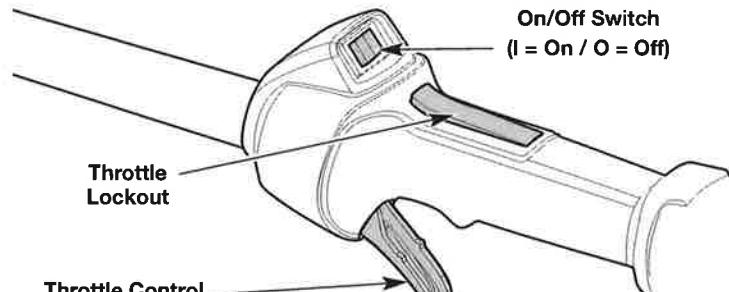

Fig. 15
**NOTE:** There is no need to turn the unit on. The On/Off switch is in the **On (I)** position at all times (Fig. 15).
5. Press and hold the throttle lockout. Squeeze and hold the throttle control (Fig. 15). Pull the starter rope with a controlled and steady motion **5 times** to start the engine (Fig. 17).
2. Press and hold the On/Off switch in the **Off (O)** position until the engine comes to a complete stop (Fig. 15).
- NOTE:** There is no need to turn the unit on. The On/Off switch is in the **On (I)** position at all times (Fig. 15).
6. Press and hold the throttle lockout. Squeeze and hold the throttle control (Fig. 15). Run the Speed Start™ accessory in intervals no longer than 2 seconds each until the unit starts.